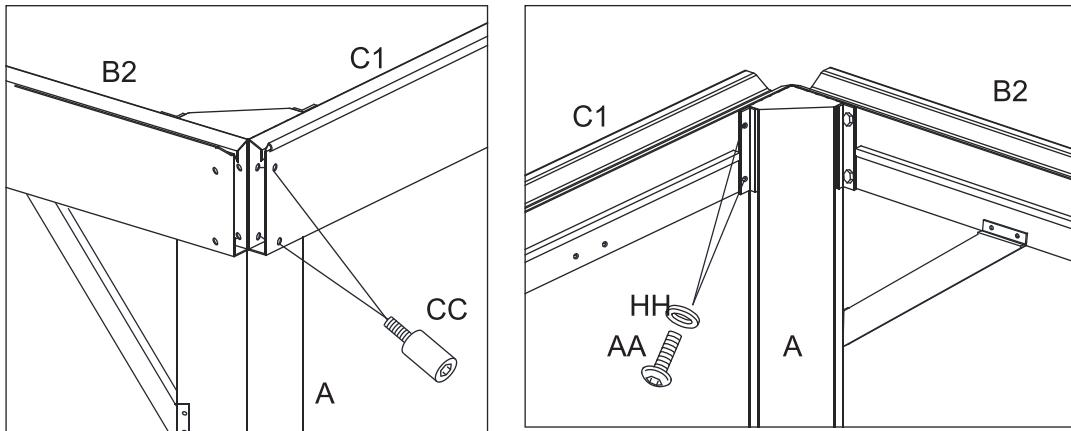
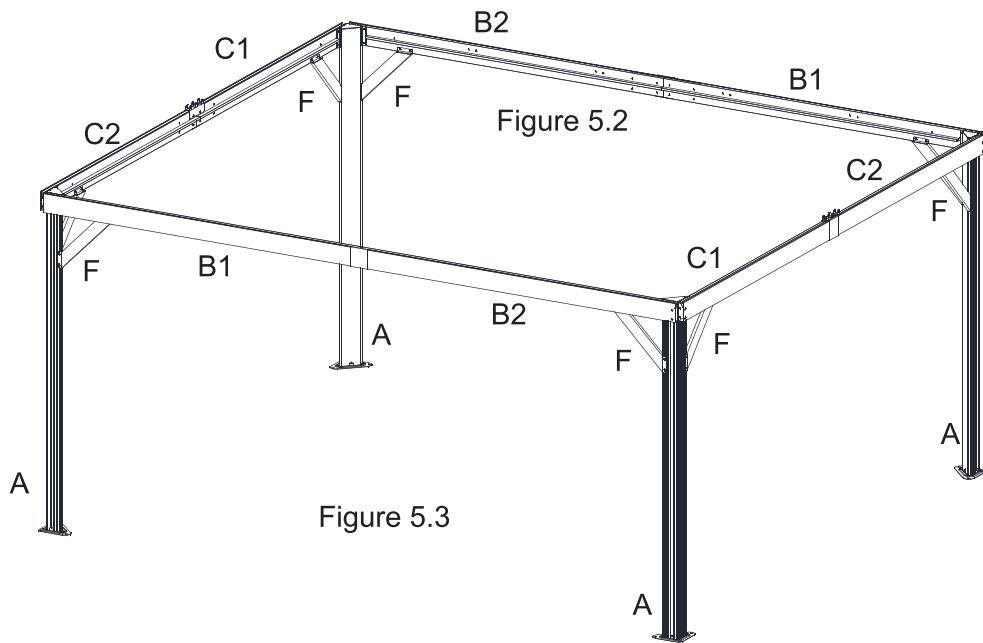

Figure 5.1
Figure 5.3
5.1. Attach Short Lintel (C1 and C2) to Corner Posts (A) first with Bolts (CC) then with Bolts (AA) and washer (HH) . Tighten all the Bolts. Repeat for opposite side. Tighten all Bolts.See Figure 5.1 and Figure 5.3.
5.3. Repeat for all Corner Posts and Lintels. Tighten All Bolts. See Figure 5.3.